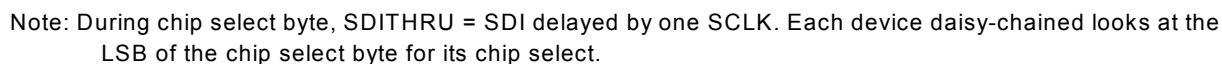

Figure 19. SPI Daisy Chain Mode
- **Daisy chain mode.** This mode allows communication with banks of up to eight ProSLIC devices using one chip select signal. When the SPIDC bit in the SPI Mode Select register is set, data transfer mode changes to a 3-byte operation: a chip select byte, an address/control byte, and a data byte. Using the circuit shown in Figure 19, a single device may select from the bank of devices by setting the appropriate chip select bit to 1. Each device uses the LSB of the chip select byte, shifts the data right by one bit, and passes the chip select byte using the SDITHRU pin to the next device in the chain. Address/control and data bytes are unaltered.